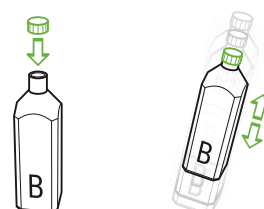

Fig. B12.2
2. Close the bottle containing both liquids with the cap. Mix the two components by vigorously shaking the bottle for 30 seconds (Fig. B12.2).